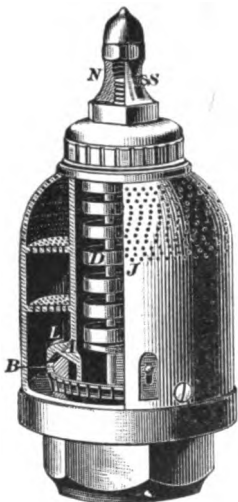

FIG. 7.
17. In Fig. 7 is shown a part-sectional view of the **Meady muffled valve**. The valve proper *A* projects upwards out of the perforated casing *J* and encloses the spring *D*, which keeps the valve on its seat *B* against the steam pressure. The outside surface *L* of the valve is always open to the atmosphere, thus avoiding back pressure on the valve when steam is blowing off. The design is such that when the valve opens, it rises to a greater height than is usual in the majority of safety valves. The escaping steam passes out through the perforated casing without making a violent noise; hence the term "muffled." The spring's tension is adjusted by means of the sleeve nut *N*, the setscrew *S* first being slacked back.